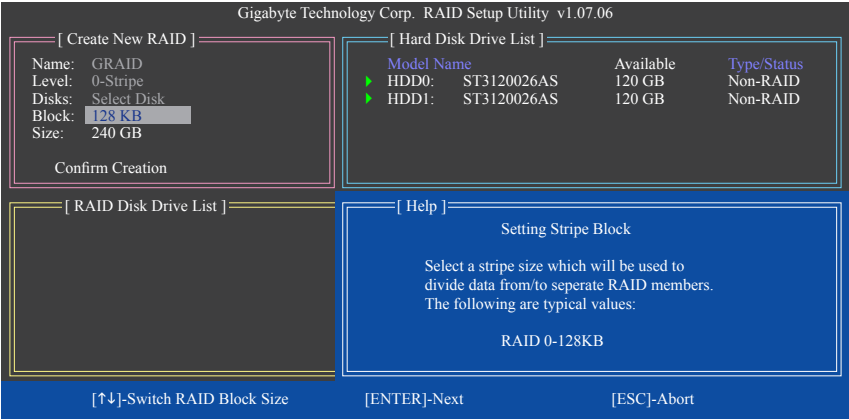

Figure 6
4. **Set Block Size (RAID 0 only):** Under the **Block** item, use the up or down arrow key to select the stripe block size (Figure 6), ranging from 4 KB to 128 KB. Press <Enter>.